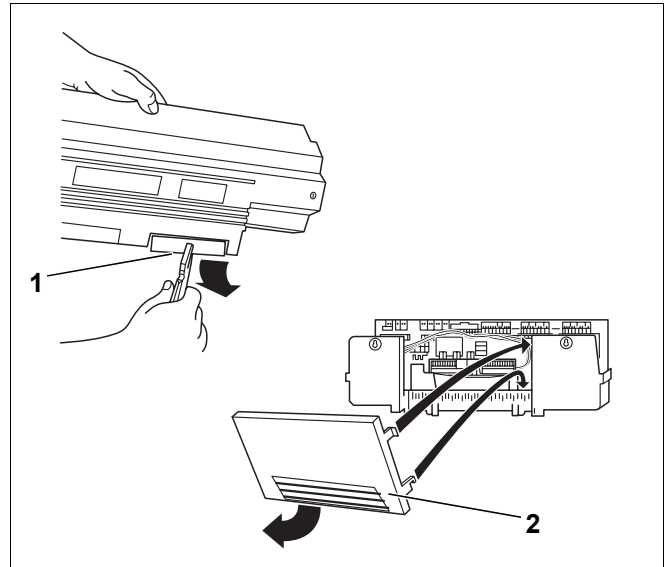

Fig. 44 Cable gland preparation
- Where necessary remove any knockouts (Fig. 44, **Item 1**) in the back of the cable gland (Logamatic 33..) or from the rear wall (Logamatic 43..) (Fig. 44, **Item 2**).
- Hook the rear wall (Logamatic 43..) with the lower hooks into the clip frame and push the top part home, until the hooks engage (Fig. 44, **Item 2**).